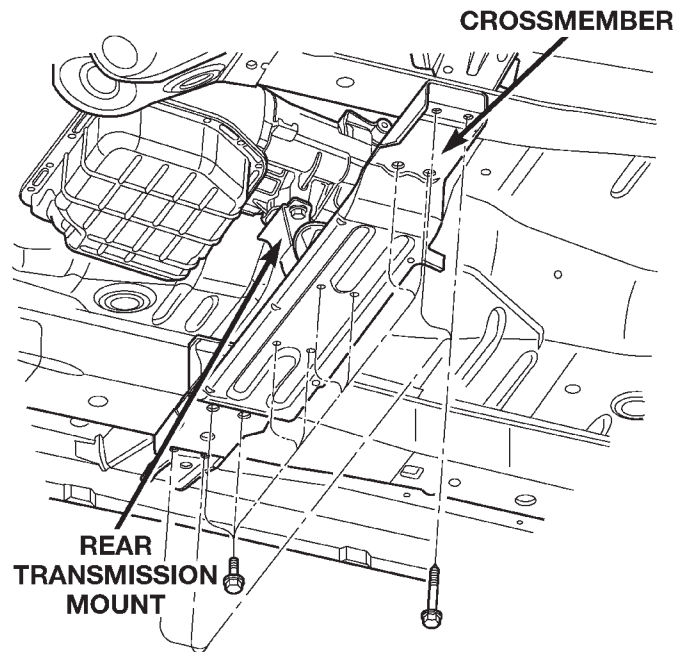

Fig. 19 Rear Transmission Crossmember
(15) Disconnect transmission fluid cooler lines at transmission fittings and clips.
(16) Disconnect the transmission vent hose from the transmission.
(17) Support rear of engine with safety stand or jack.
(18) Raise transmission slightly with service jack to relieve load on crossmember and supports.
(19) Remove bolts securing rear support and cushion to transmission and crossmember (Fig. 19).
(20) Remove bolts attaching crossmember to frame and remove crossmember.